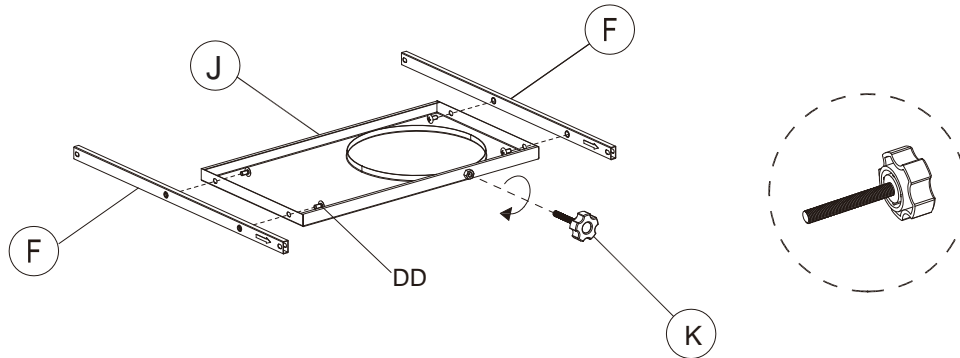

Fig. 7
Attach cylinder holder poles (F) to cylinder holder (J) with (4) M6x12 bolts (DD) and then screw cylinder locking bolt (K) to cylinder holder (J) as Fig. 7.